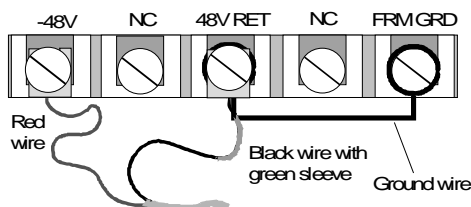

Figure 2-7. DID Power Cord Connected to 8012 Power Supply
5. Connect the DID power cord as follows (see Figure 2-7):